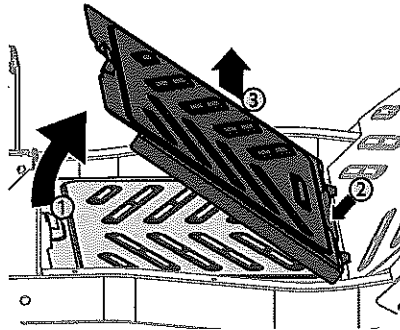

Figure 38
- Carefully lift the rear of the floor panel. See 1 in Figure 38.
- Slide the floor panel rearward to free the front of the floor panel. See 2 in Figure 38.
- Lift it off the tractor. See 3 in Figure 38.